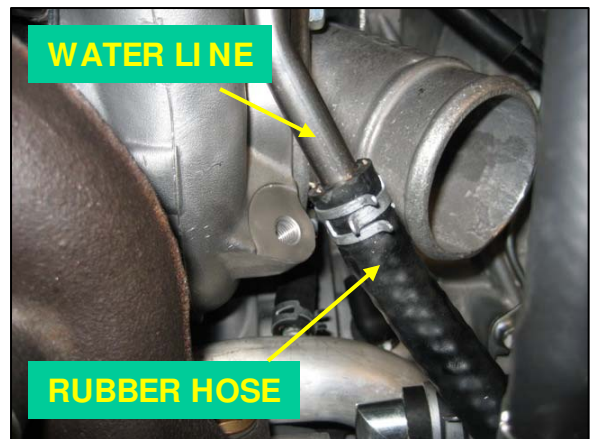

Fig. 13
15. Find the hard steel water line that connects to the rear of the turbocharger's center housing (facing firewall). Remove it, along with its banjo bolt, copper crush washers, and mounting bolt. Disconnect the rubber hose. These parts will be reused, except for the crush washers. The hard line will be transferred to the Garrett turbocharger in step 31, using the original banjo bolt and new copper crush washers supplied in kit (1 banjo bolt, 1 bracket bolt, 1 clamp, pliers, 10mm & 17mm sockets). See *Fig. 13*.